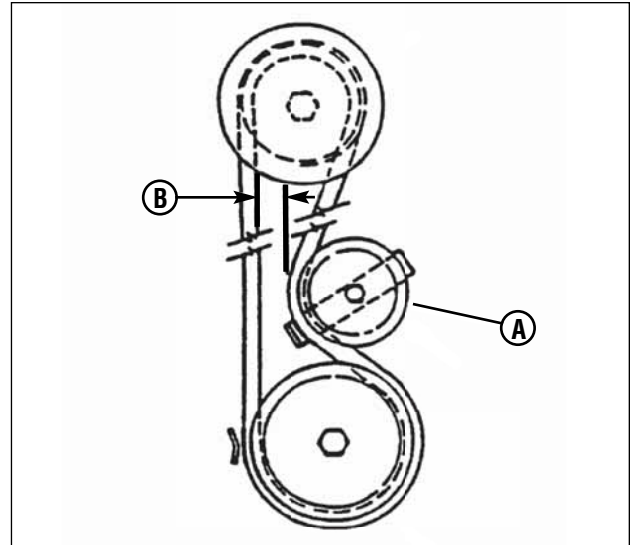

Figure 22: Measuring the belt spacing
5. 28" and 30" Decks \*: Measure the belt spacing at the idler pulley (A, Figure 22). The belt spacing (B) should be 1-1/4" but no less than 1". If the measurement is less than 1", the belt tension should be adjusted. Refer to the section entitled "BLADE DRIVE BELT ADJUSTMENT".